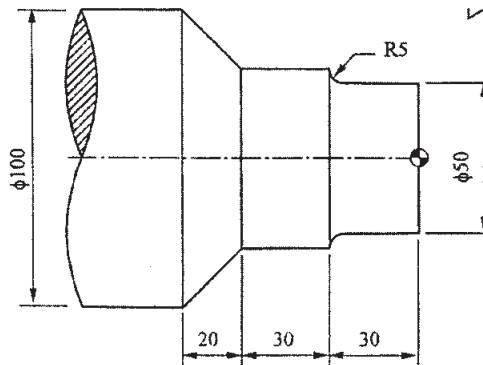
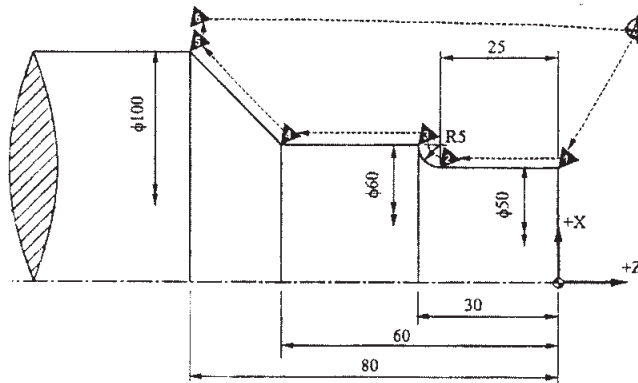

Fig. 7
Fig. 8
- b) Write a manual part program to machine the component as shown in fig.7 and tool path is shown in fig.8. Assume the speed as 200 rpm and feed rate at a rate of 0.35mm/revolution. [10]